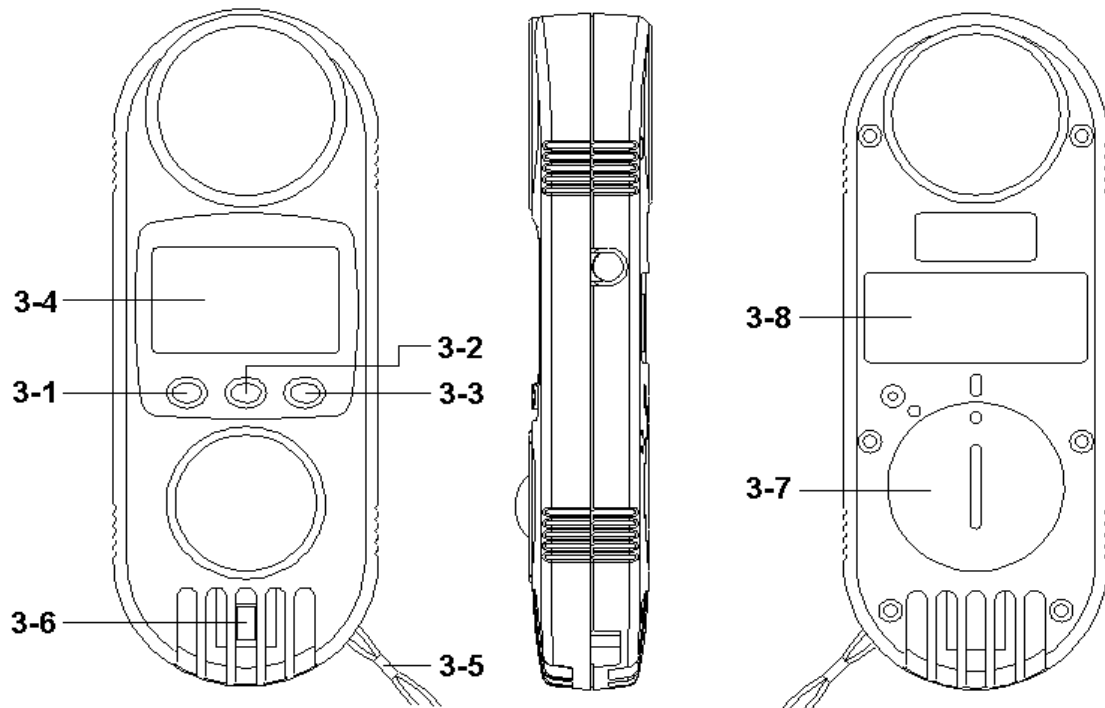

Fig. 1
Intend to get the precision reading, for the Humidity / Temp. , Dew point Temp., Wet bulb Temp., Heat index measurement, the hand or fingers do not touch ( or stay away ) the Humidity sensor (3-6, Fig. 1 ).
- 2) Open the " Battery Compartment / Cover " ( 3-7, Fig. 1 ) and remove the battery.